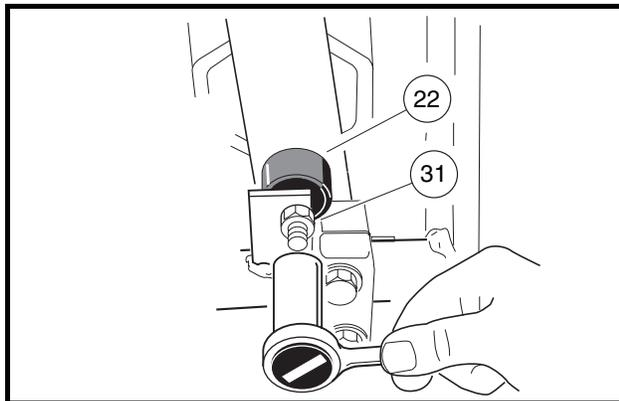
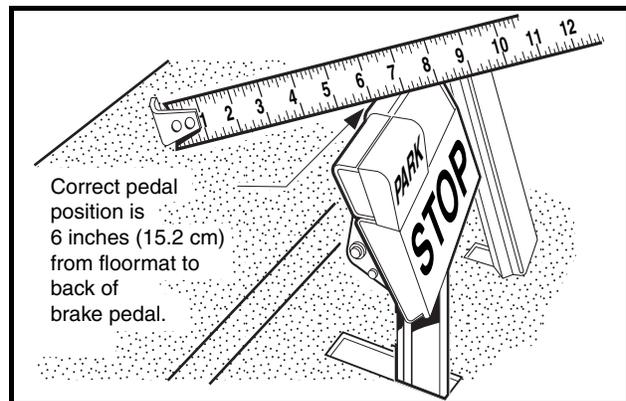

Figure 5-11 Brake Pedal Height Adjustment
Figure 5-12 Brake Pedal Height Measurement
- 2.4. Loosen the brake stop jam nut (31), then relieve pedal pressure on the stop by pushing down slightly on the pedal. Next, adjust the brake stop bumper (22) up or down (**Figure 5-11, Page 5-12**). Adjusting the bumper upward decreases distance between pedal and floorboard. Adjusting the bumper downward increases distance between pedal and floorboard. Proper brake pedal height is 6 inches (15.2 cm) (**Figure 5-12, Page 5-12**).
- 2.5. Tighten the jam nut (31) to 8 ft-lb (9.5 N·m) (**Figure 5-11, Page 5-12**).